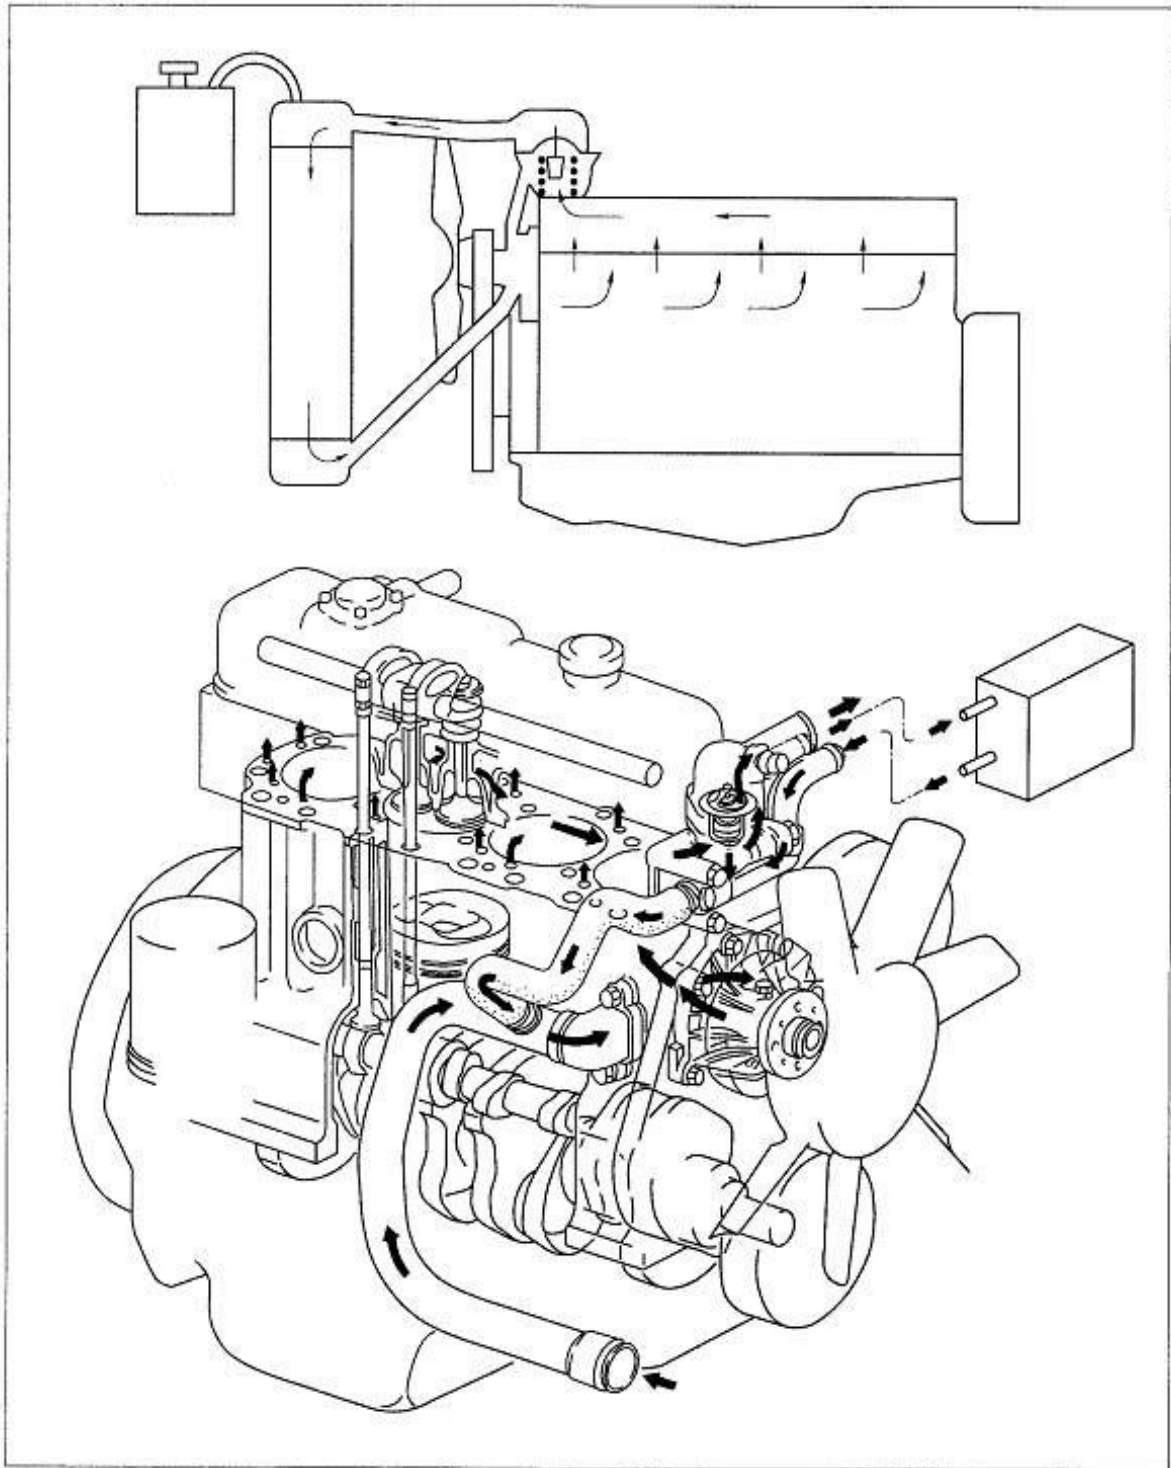

Figure 3-33 Cooling System of the Diesel Engine
3.7.1 Construction and operation of cooling system (see Figure3-33).